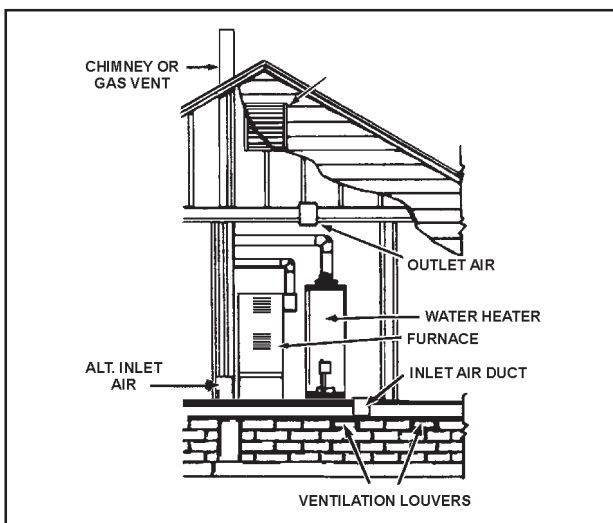

FIGURE 12.
B. ALL AIR FROM OUTDOORS: (See Figures 12, 13 and 14)
1. When directly communicating with the outdoors, each opening shall have a minimum free area of 1 square inch per 4,000 Btu per hour ($5.5\text{cm}^2/\text{kW}$) of total input rating of all equipment in the enclosure, see Figure 12.